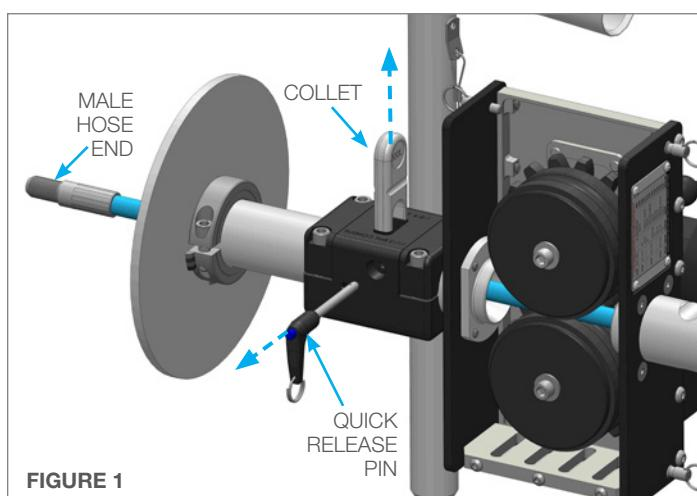
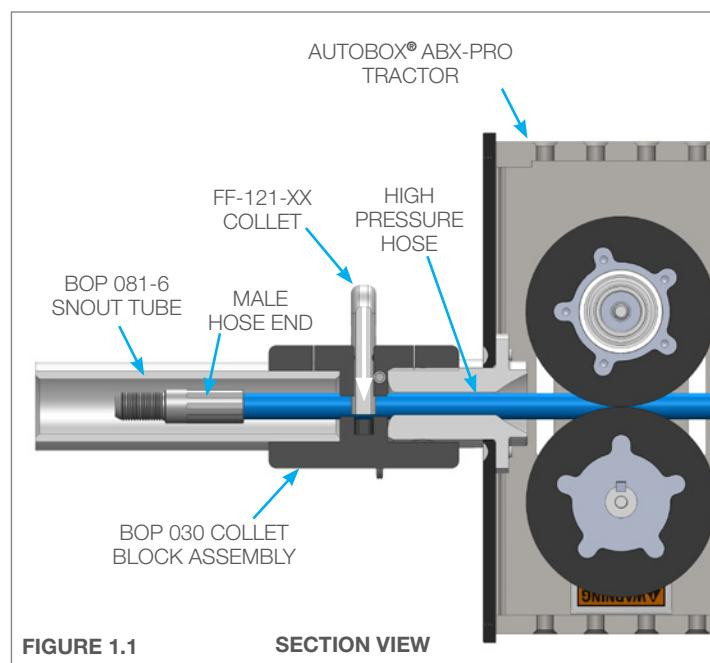

FIGURE 1
FIGURE 1.1 SECTION VIEW
1. Slide the Female Positioner Arm onto the Male Positioner Arm. (**Figure 1**) Line up the incremental holes and push the Quick Release Pin through both positioner arms. (**Figure 1.1**)
- Once the appropriate Collet size for the hose diameter is selected, pull the Quick Release Pin and remove the Collet. Feed the Male Hose End through the AUTOBOX® ABX-PRO TRACTOR, BOP 030 Collet Block, and BOP 081-6 Snout Tube. (**Figure 1**) Replace the Collet and Quick Release Pin. Pull back on the hose to ensure the Male Hose End does not back out past the Collet. (**Figure 1.1**)
1. Open the back cover of the ABX-PRO Tractor by pulling the top two Quick Release Pins in the outward direction. (**Figure 1**)
1. Choose an alternate size or replacement set of Poly Rollers by using the reference chart in the section below to select the proper sizing. Slide the Poly Rollers onto the Hubs. Then fasten the Hub Outer Plates and Roller Washers onto the Spline Load Rollers with the two 5/16" socket head cap screws. (**Figure 1**)